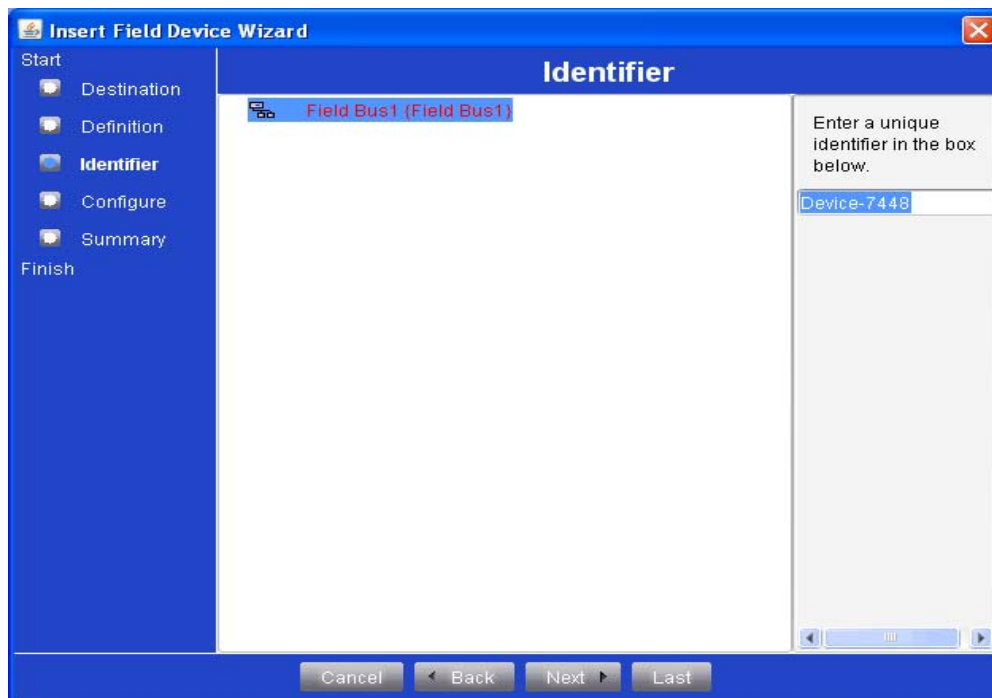
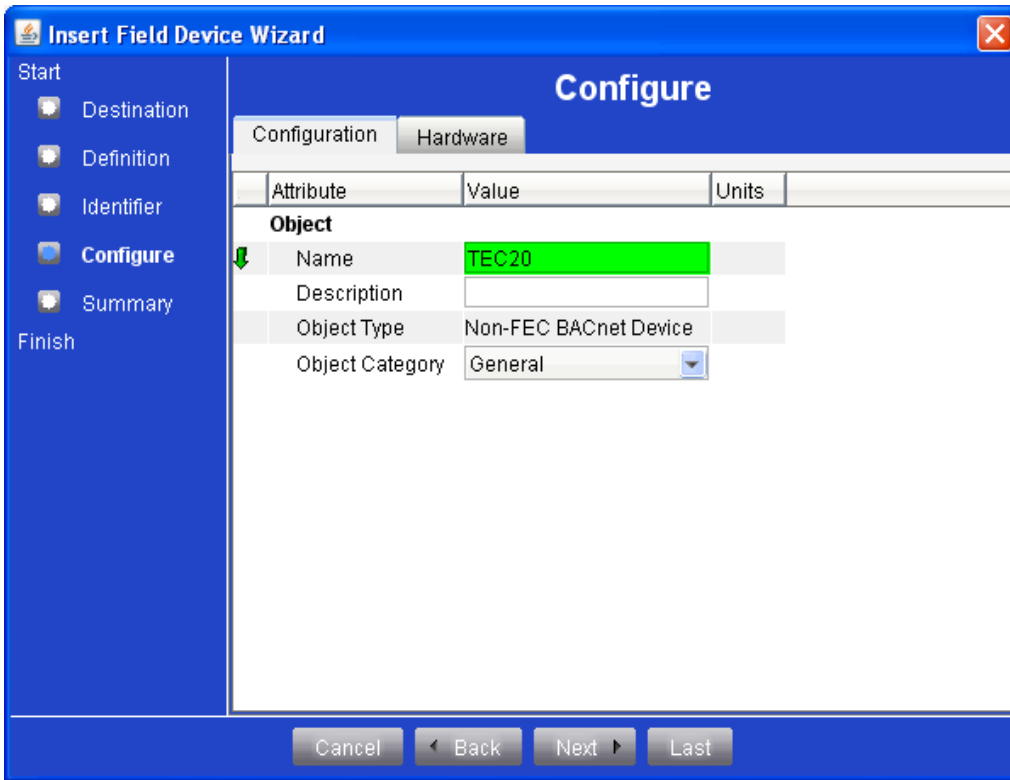
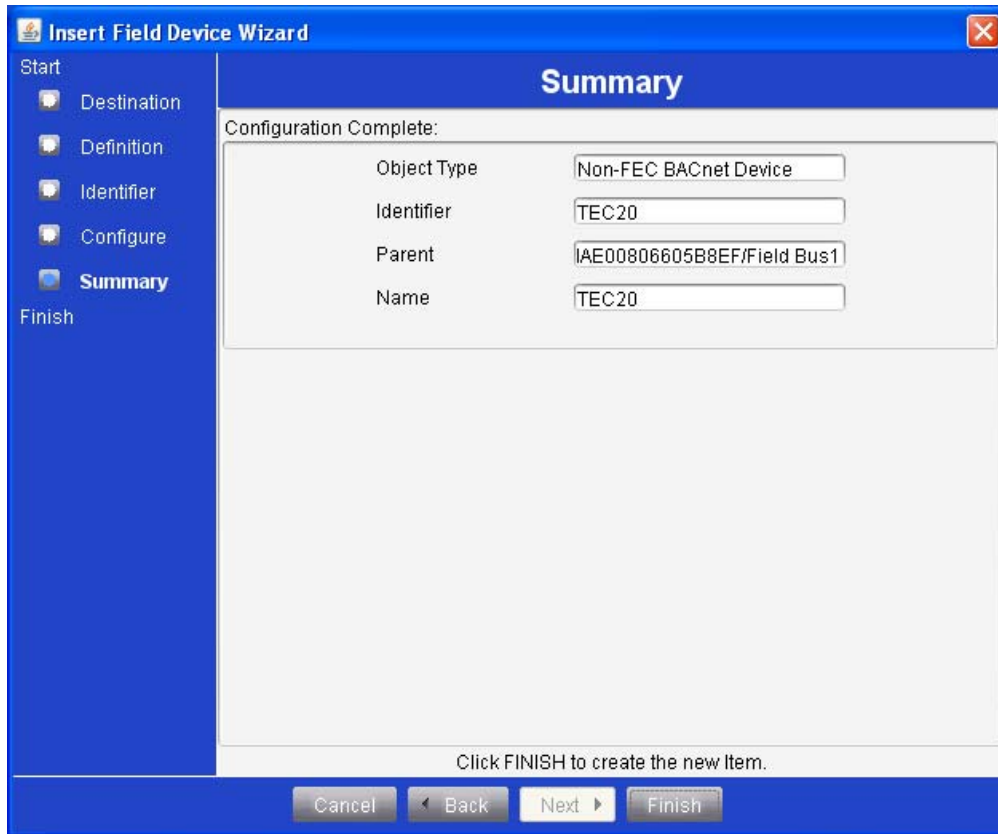

Figure 44: Insert Field Device Wizard - Identifier Screen
Figure 45: Insert Field Device Wizard - Configure Screen
Figure 46: Insert Field Device Wizard - Summary Screen
As soon as you select a device, the Wizard Auto Detect Utility closes and the **Insert Field Device Wizard - Identifier** screen (Figure 44) appears.
6. Enter a unique identifier in the field in the upper right corner of the **Insert Field Device Wizard - Identifier** screen (Figure 44), and then click **Next** to open the **Insert Field Device Wizard - Configure** screen (Figure 45).
7. Enter the Name and Description in the editable fields on the **Insert Field Device Wizard - Configure** screen (Figure 45); then click **Next** to go to the **Insert Field Device Wizard - Summary** screen (Figure 46).
8. Review the **Insert Field Device Wizard - Summary** screen values (Figure 46) and then click one of the following: